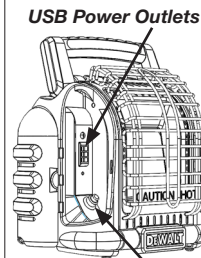

Figure 3:
The Pulse Ignition Button is located at the bottom of the USB Compartment (Figure 3, page 6). Unscrew the button cap to install the "AA" battery (included), with positive end toward the button.
- Turn control knob counterclockwise to "PILOT" position and depress. While holding knob down, depress the pulse ignition button located in the USB Compartment, see Figure 3 and 4. The pilot should remain lit.